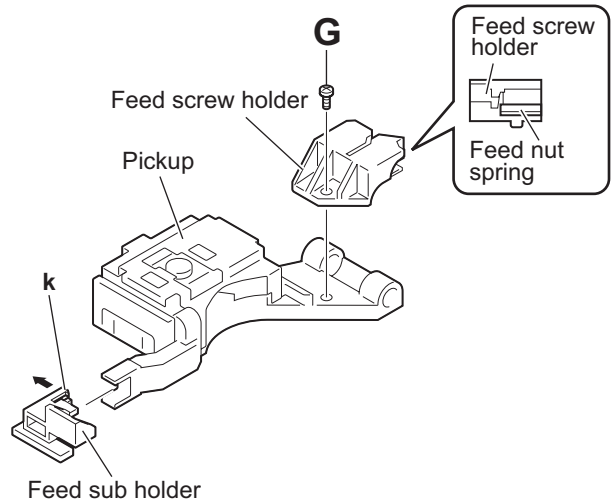

Fig.12
- (6) Remove the screw **G** attaching the feed screw holder to the pickup. (See Fig.12.)
Remove the feed nut spring from the feed screw holder as required. (See Fig.12.)
- (7) Release the claw **k** in the direction of the arrow to remove the feed sub holder. (See Fig.12.)
- (1) Reattach the feed sub holder to the pickup. (See Fig.12.)
- (2) Reattach the feed screw holder to the pickup using the screw **G**. (See Fig.12.)